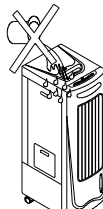

Fig10
6. Never clean unit under running water or immerse unit under water. (Fig. 10)